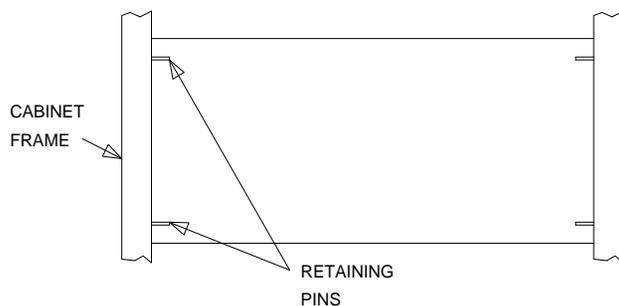

Figure 4-26. Blank Carrier Panel (Rear View)
2. Remove the blank port-carrier panel by pushing outward on panel from the rear of the cabinet until the panel clears the four retaining pins on the cabinet frame (See Figure 4-26).